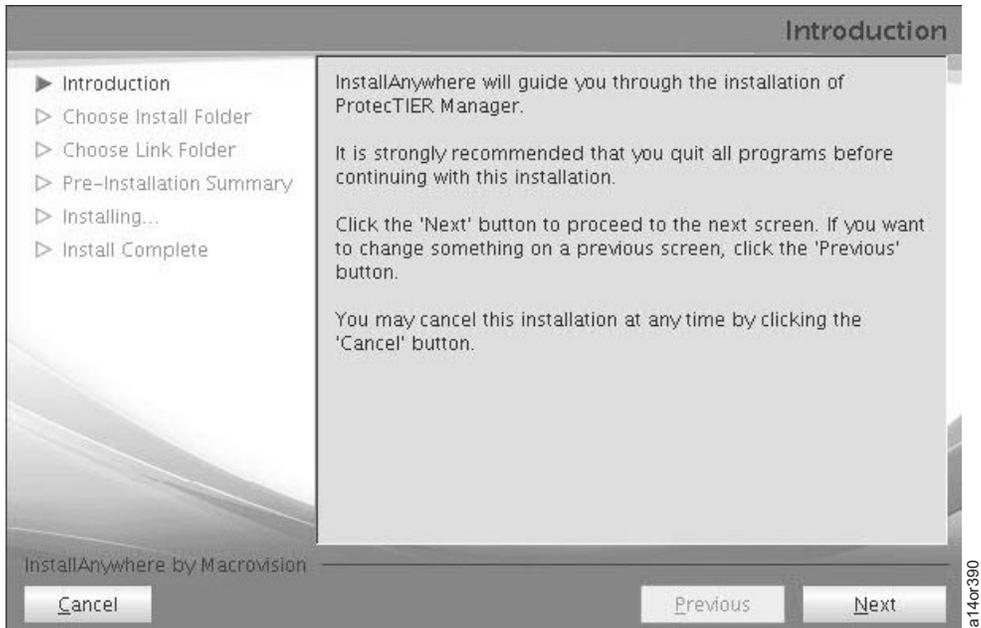

Figure 96. Introduction to ProtecTIER Manager InstallAnywhere Screen
3. You see the Introduction screen in Figure 96 on page 66. Click **Next**.